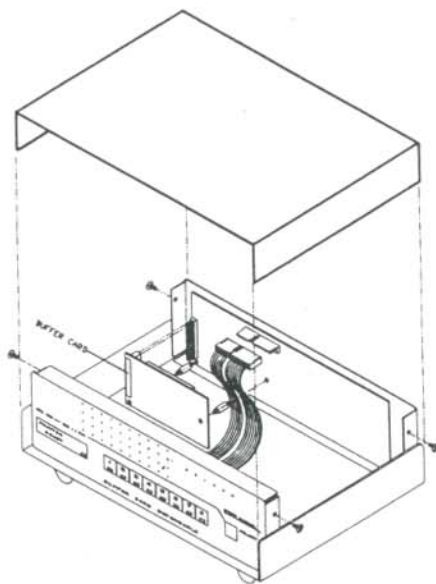

Fig 2-3-2 The AS-811P's Buffer Card Installation
- for AS-811P users: see Fig 2-3-2.